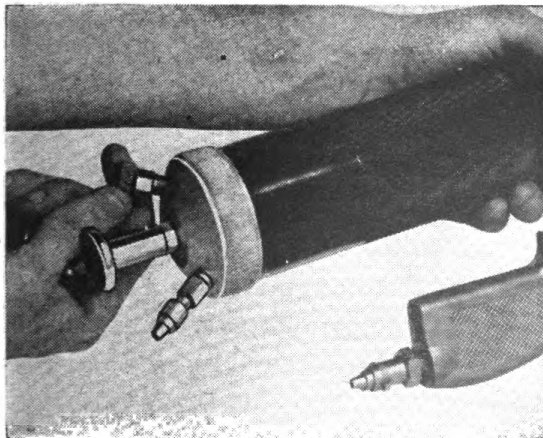
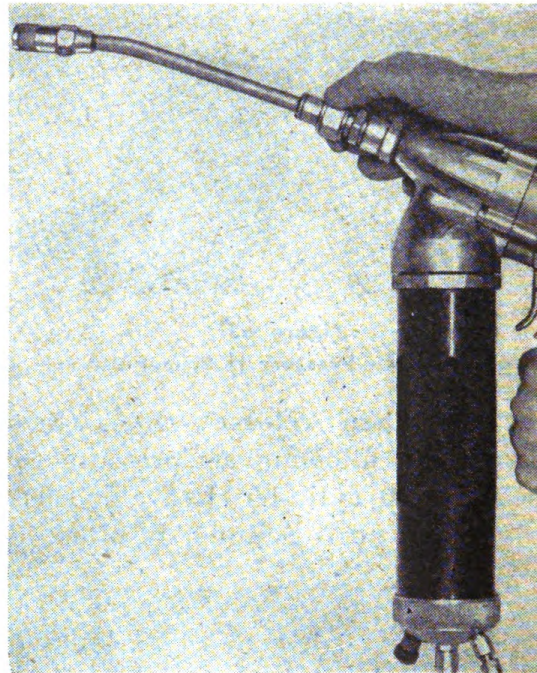

Figure 64
Figure 68
b. Open release valve (See Figure 64) allowing air pressure to escape from cylinder. Leave release valve open until cylinder is filled.
h. Close air release valve (See Figure 64).
a. Attach proper extension (See Figure 68) or whip end hose to gun outlet, depending upon the type of fitting to be serviced. (Refer to pages 8 to 10 for illustrations and instructions for using the adapters and hose for lubricating the various types of pressure fittings.)
e. When service is completed, detach air hose (See Figure 69), release air pressure from cylinder (See Figure 64), detach extension or hose (See Figure 68), and wipe dirt and grease off gun before placing it in drawer.